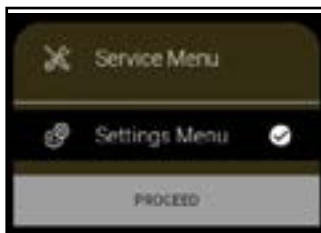

Figure 31.
17. Remove and empty the waste bucket (see Figure 31).